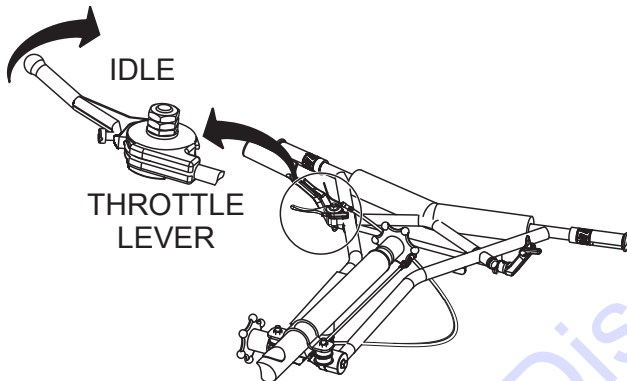

Figure 34. Throttle Lever (Idle)
- Place the throttle lever in the **IDLE** position (Figure 34).